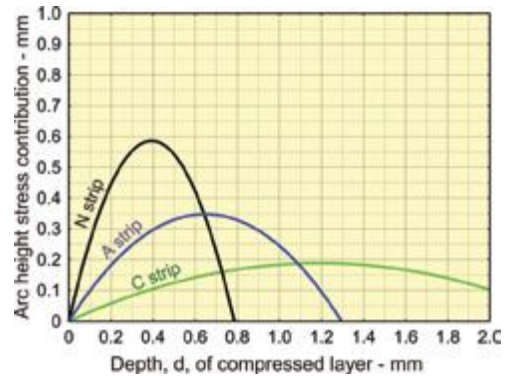

Fig.7. Contribution to arc height due to residual compressive stress.
If the average compressive stress is independent of the depth then equation (13) predicts that the arc height stress contribution will only depend on the depth, d , of the profile. Fig.7 plots the equation, together with the curves for Almen N and C strips, assuming a constant average compressive stress of 400 Nmm^{-2} . The curves indicate several significant features. These include: (1) that the arc height rises in a parabolic fashion with increasing layer depth reaching a maximum when the depth is half the strip's thickness – thereafter the arc height falls as some force is now acting in the opposite bending direction, (2) the depth of layer for a given arc height is in the ratios 1:3:10.5 for N, A and C strips respectively.